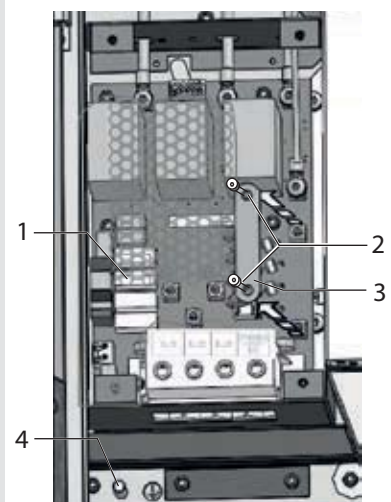

Figure 26: 5-core connection
- 5. Connect cables in accordance with the labels on the PCB terminals (Figure 26).